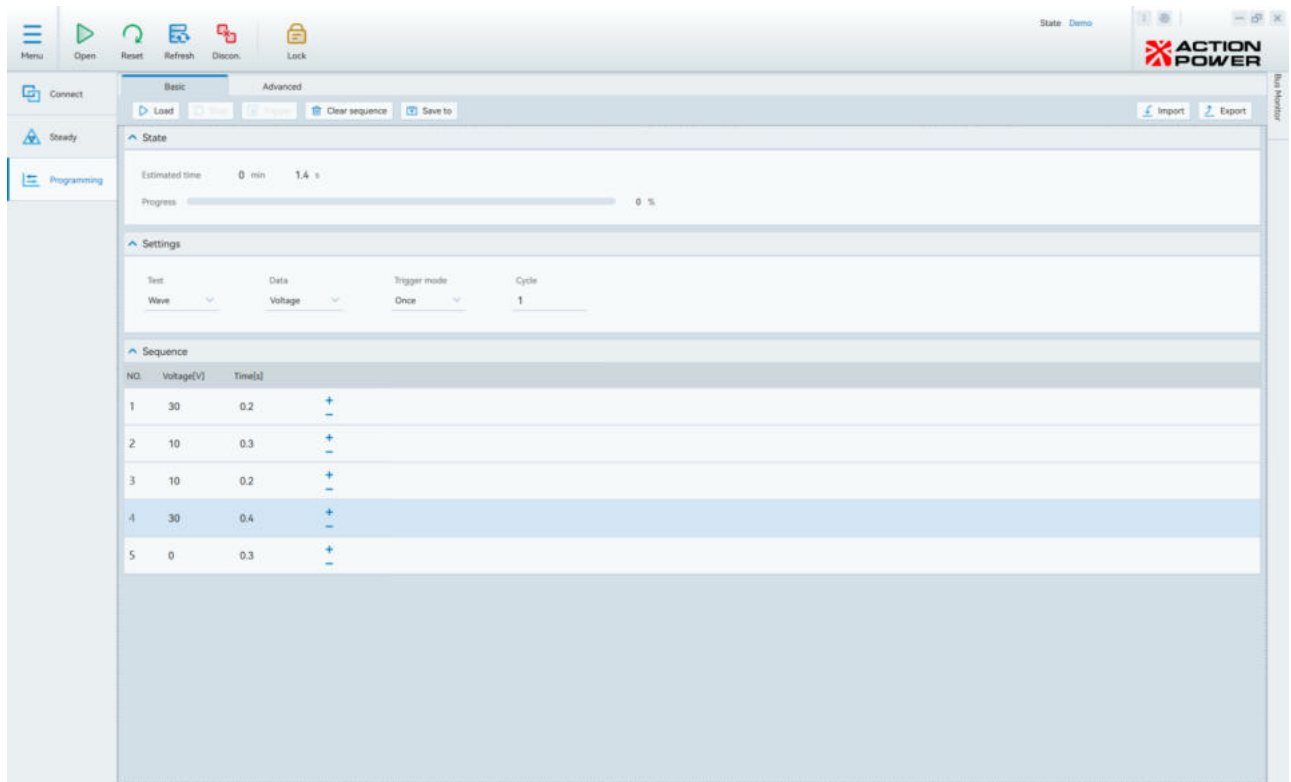
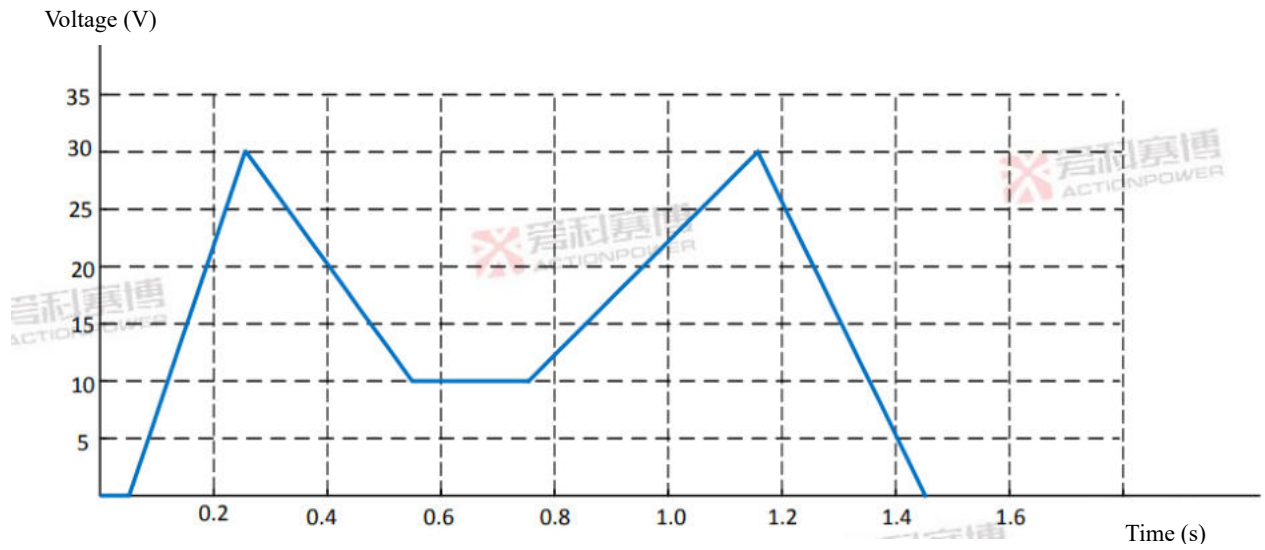

Figure 5.2.4 Wave Sequence Configuration Example Diagram
Figure 5.2.5 Waveform Example Diagram
- Example: Experiment type selected as Wave, experimental data selected as voltage. Sequence configuration as shown in Figure 5.2.4, corresponding waveform diagram as shown in Figure 5.2.5